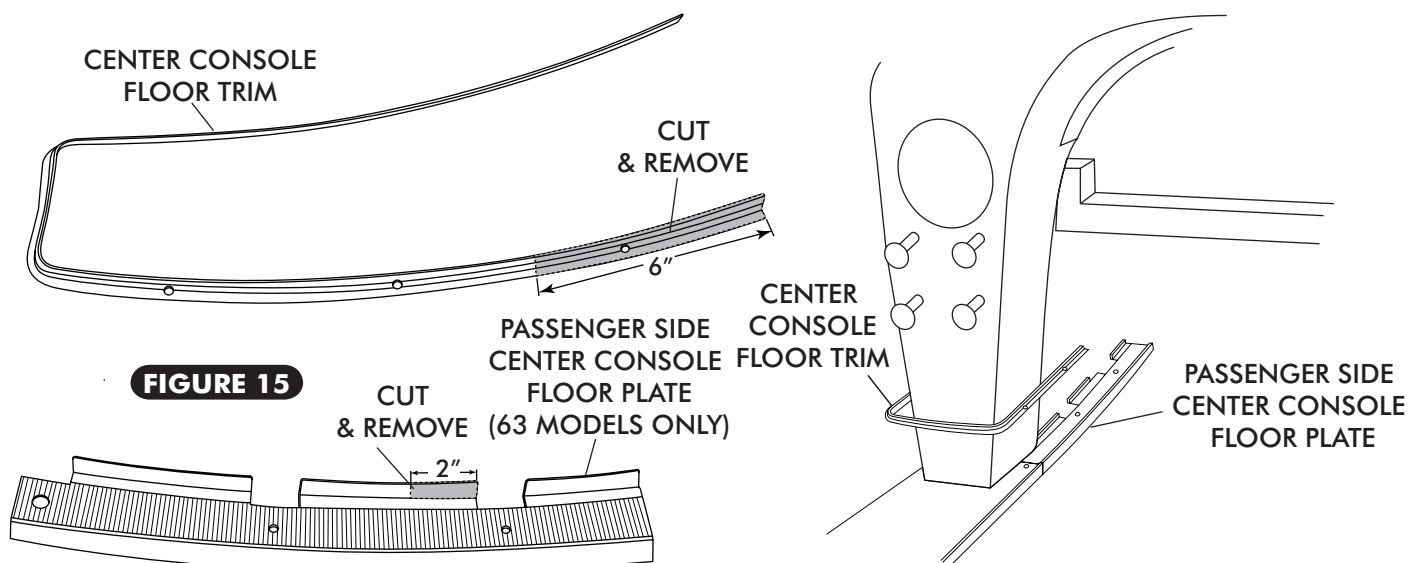

FIGURE 15
- ☐ CUT & REMOVE 6" FROM CENTER CONSOLE FLOOR TRIM AS SHOWN BELOW IN FIGURE 15.